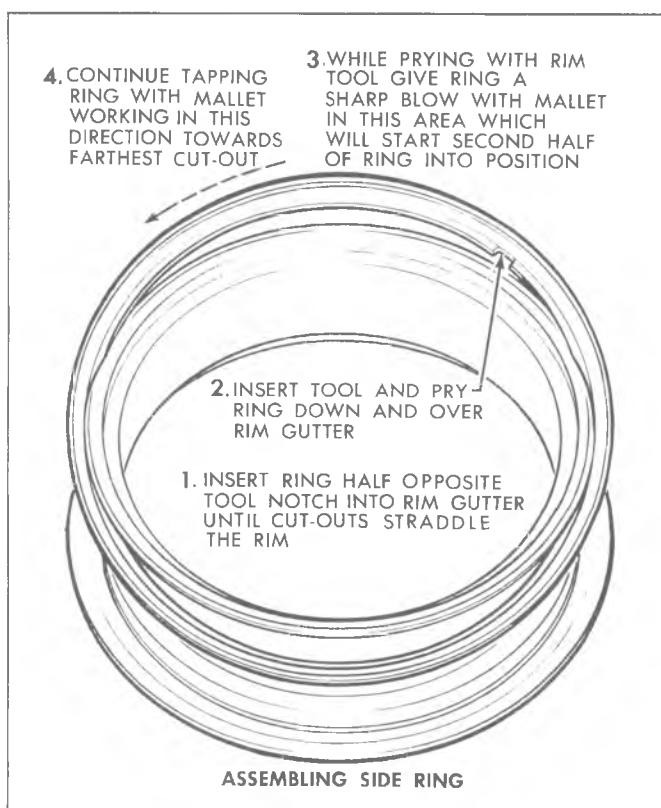

Fig. 19—Assembling Side Ring
- the ring is half on and the crescent shaped cutouts straddle the rim gutter per illustration (fig. 19).